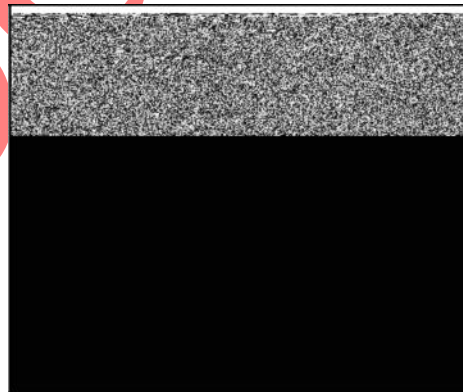

Figure 45
5. Place a hex nut (A, Figure 45) and washer (B) on a 1/4-20 screw. Place 1/4" drive 3/8" socket (C) over fuel inlet seat.